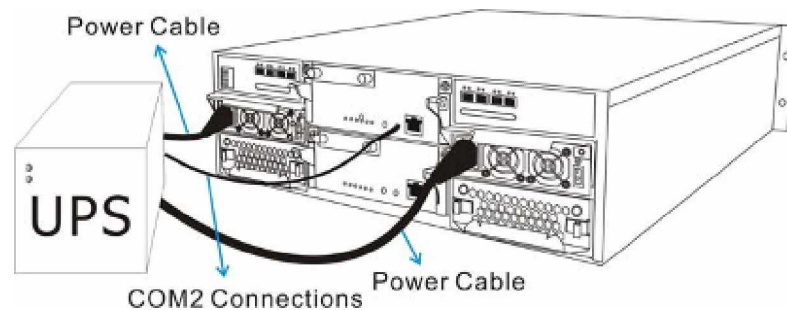

Figure D-2: Connecting the UPS to the Subsystem
The two (2) power cords shipped with the subsystem must be plugged into the power cord sockets in the rear of the PSU modules. The plug at the other end of the power cord must be inserted into a socket on the UPS. (See *Figure D-2*) Please refer to the UPS manual to determine the location of these sockets. The UPS must then be connected to main power.
The separately purchased audio jack-to-DB9 serial cable connects the COM2 port on the controller module to the UPS directly. (See *Figure D-2*) The cable transmits UPS status updates to the controller module and will in turn determine the write policy of the controller module. To connect the serial communication cable to the subsystem controller, insert the audio jack connector on one end of the cable into the COM2 port on the controller module. To see how to connect the DB9 connector to the UPS, please refer to the documentation that came with your UPS.